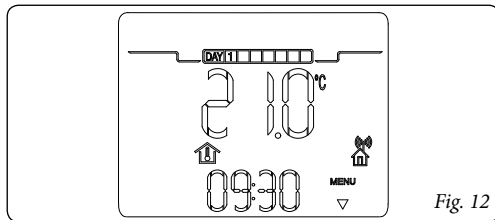

Fig. 12
- **Stand-by/anti-freeze mode** (*). In this mode, the boiler can only function in the event of anti-freeze request. In this state, the day, current time, any functioning anomalies and the room temperature are displayed (fig. 12).